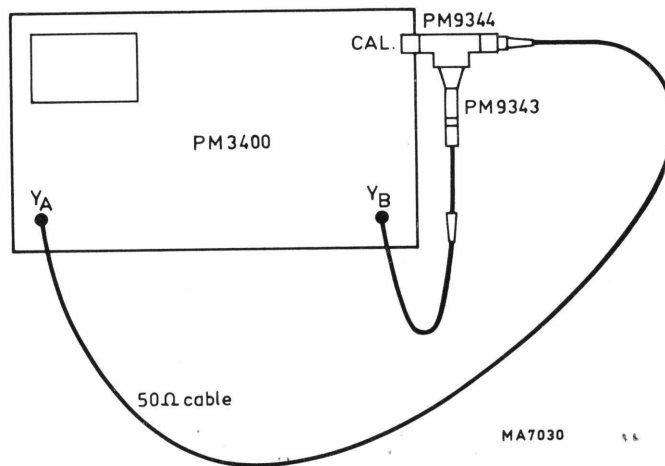

Fig. 9. Test set-up for PM 9343/01
- Set up the test arrangement shown in Fig. 9.